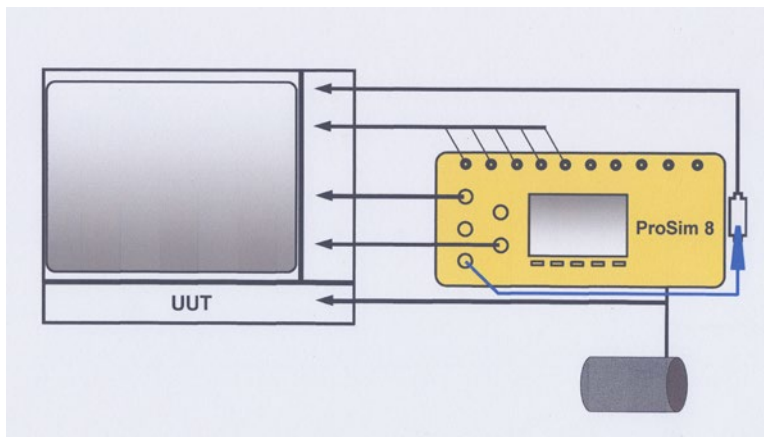

Figure 1. Generic configuration for testing a patient monitor.
1. Connect the UUT to the ProSim™ 8 with the appropriate ECG connections, NIBP test setup, pulse-oximeter sensor, and adapters for invasive blood pressure and temperature. See Figure 1.